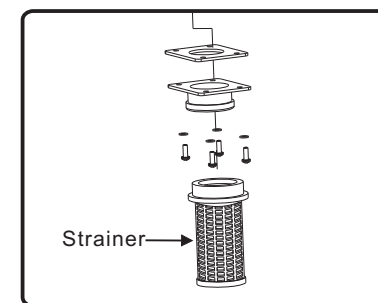

fig. 10
- Clean the strainer periodically (fig. 10).